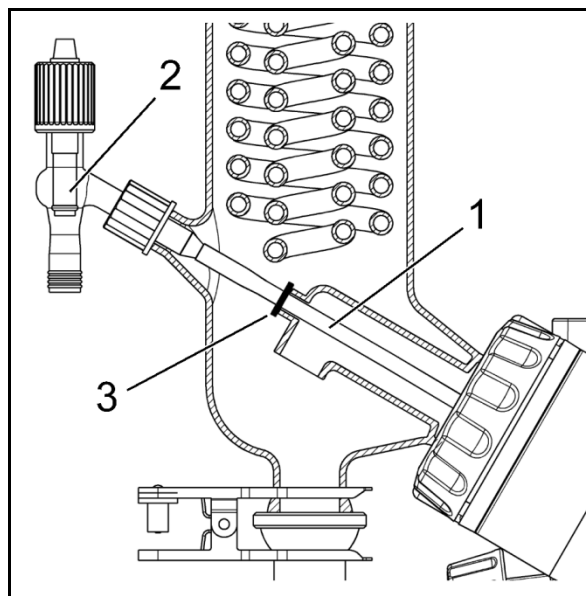

Fig. 6: Position of drip washer
If needed, install the refilling valve (see Chapter 11, *Spare parts and accessories*) (see Fig. 6) as follows:
1. Slide the PTFE tube (1) onto the refilling valve's (2) corresponding glass fitting.
2. Slide the drip washer (3) onto the PTFE tube (1).
3. Insert the PTFE tube (1) through the chilled condenser and into the evaporation flask.
Ideally, the drip washer (3) will rest on the insertion tube (see Fig. 6).
4. Position the refilling valve (2) and securely tighten the union nut.